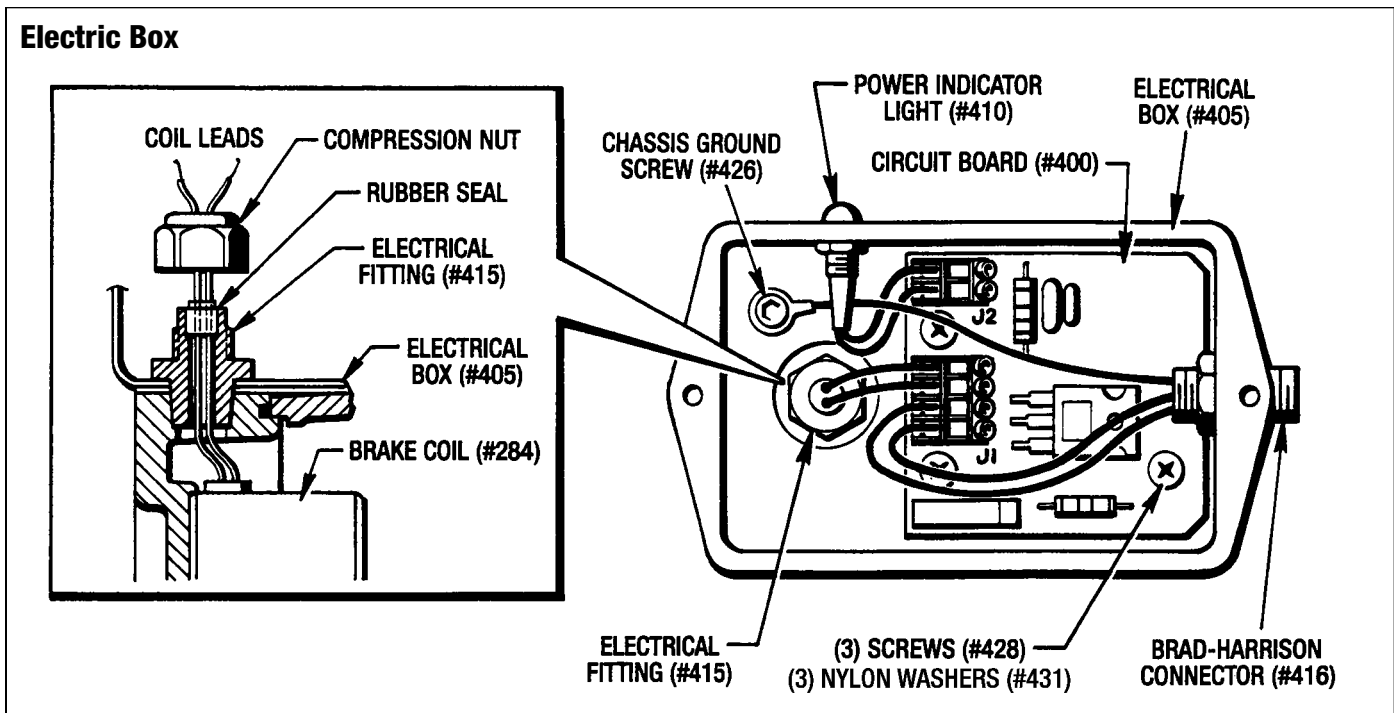

Figure 7.5 - Electric Box with Cover Removed
(See Figure 7.5 and 8.1
(See Figures 7.5, 7.6 and 8.2)
- Dis-connect the coil leads from J1 terminal strip located on the Circuit Board (#400). Also remove the compression nut from the Electrical Fitting (#415) and pry the rubber seal out of the fitting and off of the coil leads. (See Figure 7.5.)
3. Attach the Coil (#284) with (1) Lockwasher (#275) and (1) Screw (#153). Make sure that the coil wires are at the top of the brake. **Torque to 60 Ft. Lbs.**
4. Place the rubber seal on the coil leads and pull the wires through, taking up all the slack in the wires. Seat the rubber seal into the threaded part of the Electrical Fitting (#415). Tighten down the compression nut. (See Figure 7.5)
7-9 REPLACING HOLDING COIL FOR MSB4 & MSB6 (See Figures 7.5, 7.7, 8.3 or 8.4)
3. Dis-connect the coil leads from J1 terminal strip located on the Circuit Board (#400). Also remove the compression nut from the Electrical Fitting (#415) and pry the rubber seal out of the fitting and off of the coil leads. (See Figure 7.5.)
- Place the rubber seal on the coil leads and pull the wires through, taking up all the slack in the wires. Seat the rubber seal into the threaded part of the Electrical Fitting (#415). Tighten down the compression nut. (See Figure 7.5)